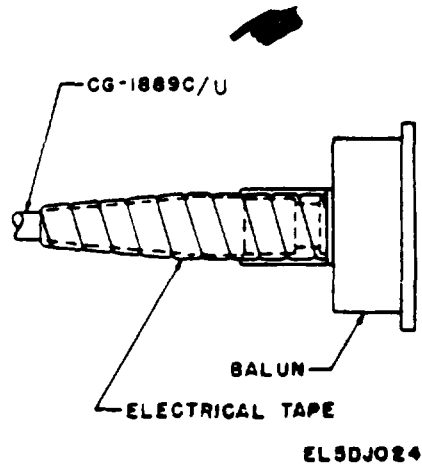

Figure 2-19. Weatherproofing mated connectors.
- (3) Tightly wrap several layers of tape with a 50 percent overlap over the built-up junction. Use a minimum of four layers. The completely taped covering should extend beyond the connector for a distance equal to 8 to 12 times the diameter of the cable and have a smooth and symmetrical contour (fig. 2-19).